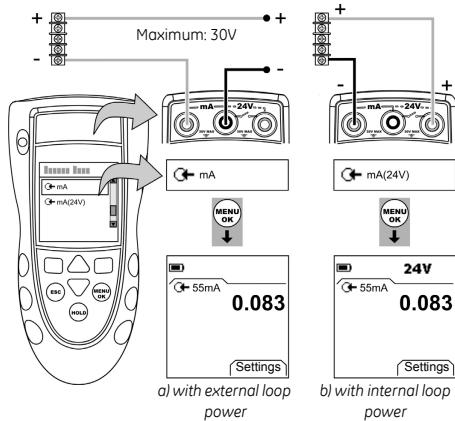

Figure 5: Example configuration - mA measurement
1. Connect the instrument (Figure 5) and, if necessary, adjust the Set Up (Table 1).